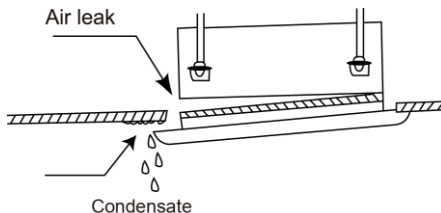

Fig. 4.32
- (2). Improper screwing of the screws may cause the troubles shown in Fig. 4.32.